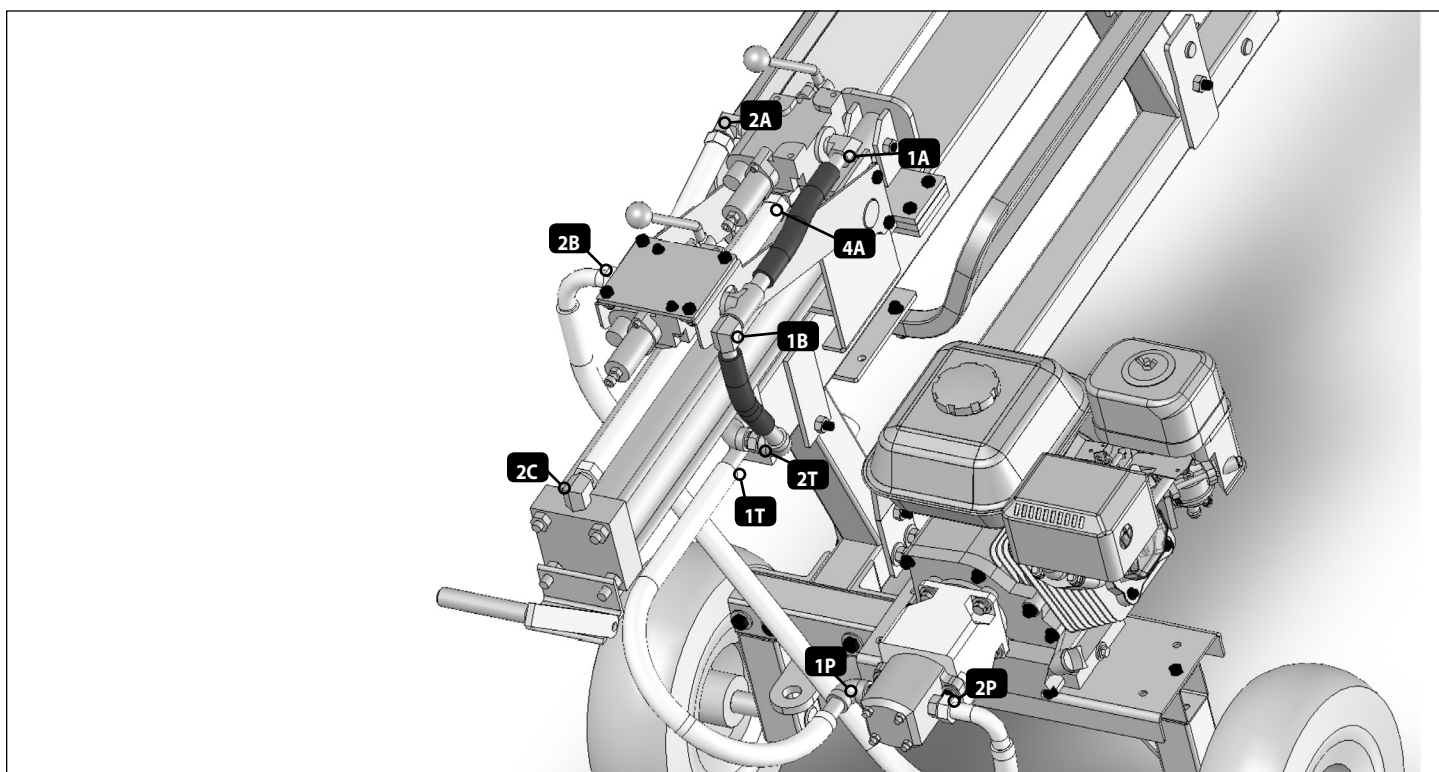

Figure 12
(European Version) Install high pressure hydraulic hose to pump (port 2P) and flow control valve (port 2B) if not already attached. **SEE FIGURE 12 AND 13.**
(European Version) Install hydraulic supply hose on pump (port 1P) and tank (port 1T) if not already attached. Slide hose onto hose barb until snug and tighten with hose clamps. **SEE FIGURE 12 AND 13.**
11. **(European Version)** Install return hose on tank (port 2T) and on Elbow fitting/T-fitting assembly attached to flow valve (port 1B) if not already attached. Slide hose onto hose barb until snug and tighten with hose clamps. **SEE FIGURE 12 AND 13.**